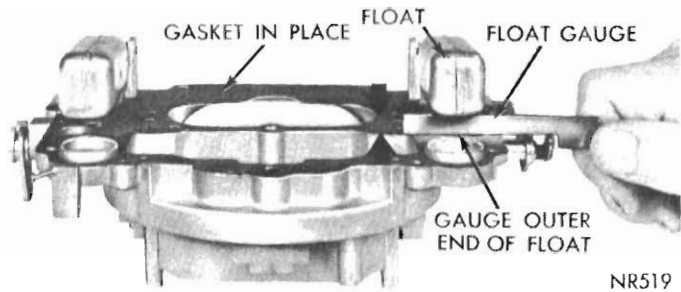

Fig. 8—Checking Float Height
(1) With air horn inverted, air horn gasket in place and float needle seated, slide float gauge (refer to specifications) between top of the float (at outer end) and air horn gasket (Fig. 8). Float should just touch gauge E14C20H.
(2) Check other float in same manner. If an adjustment is necessary, bend the float arm until correct clearance has been obtained. After bending arm, recheck the float alignment.